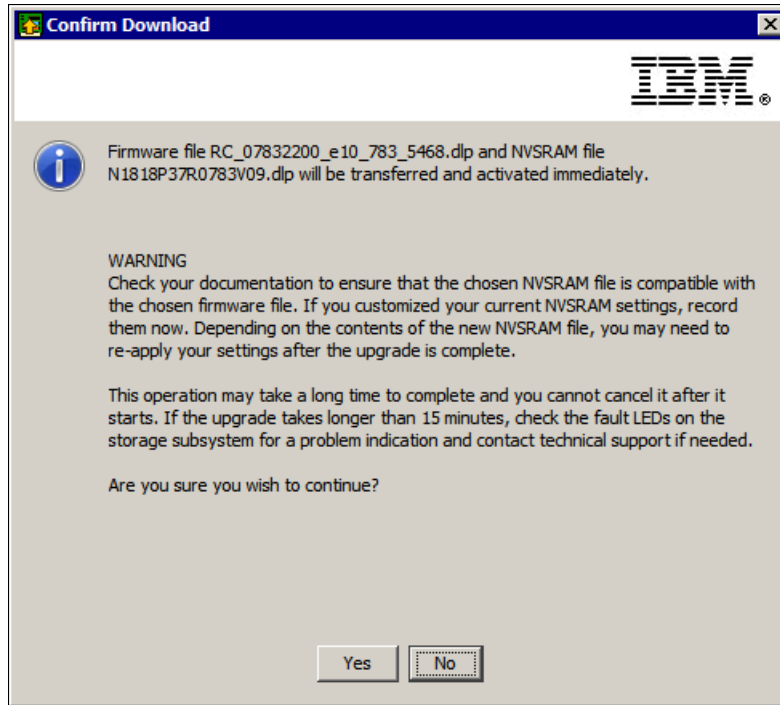

Figure 14-14 Transfer and activation confirmation window
5. If you want to transfer the firmware and NVSRAM and activate them immediately, then click **OK**. You are prompted to confirm that you want to transfer and activate the firmware and NVSRAM immediately (see Figure 14-14).